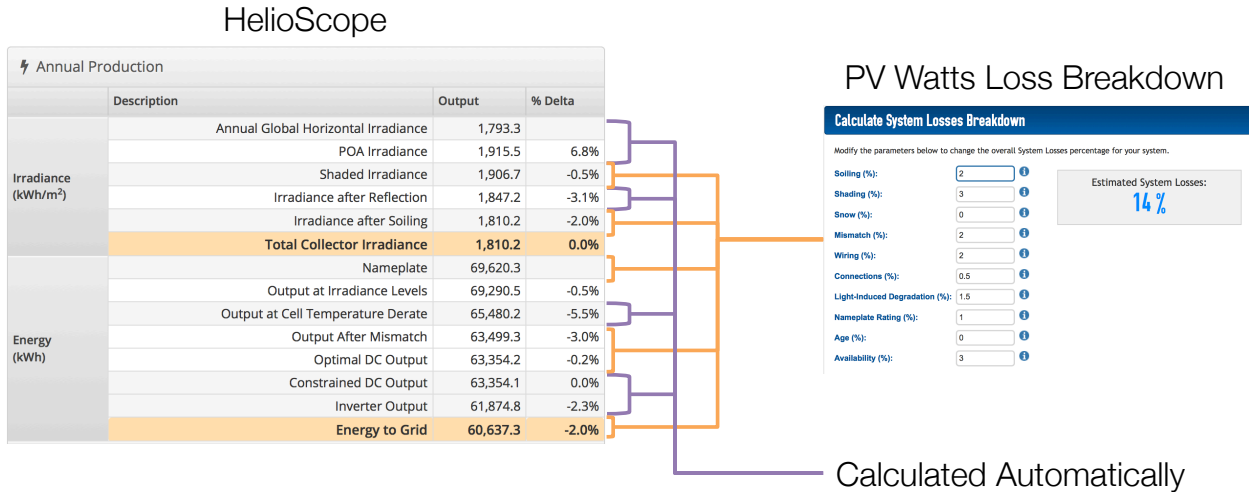

Figure 1: Mapping from HelioScope Loss Table to PV Watts Loss Breakdown
- About half of the lines on the HelioScope loss table line are mapped to the PV Watts Loss Breakdown. See Figure 1 below for more detail.